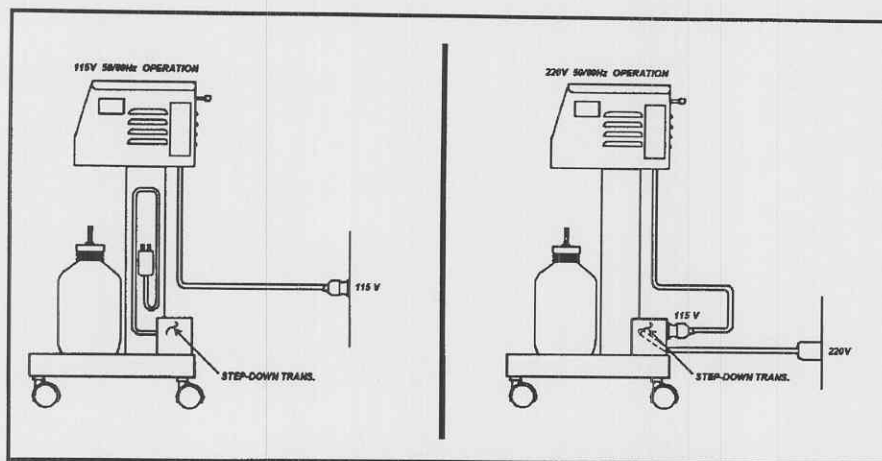

Figure 3-15. Electrical connections.
b. Electrical connections for 115-volt and 230-volt use are illustrated in figure 3-15.